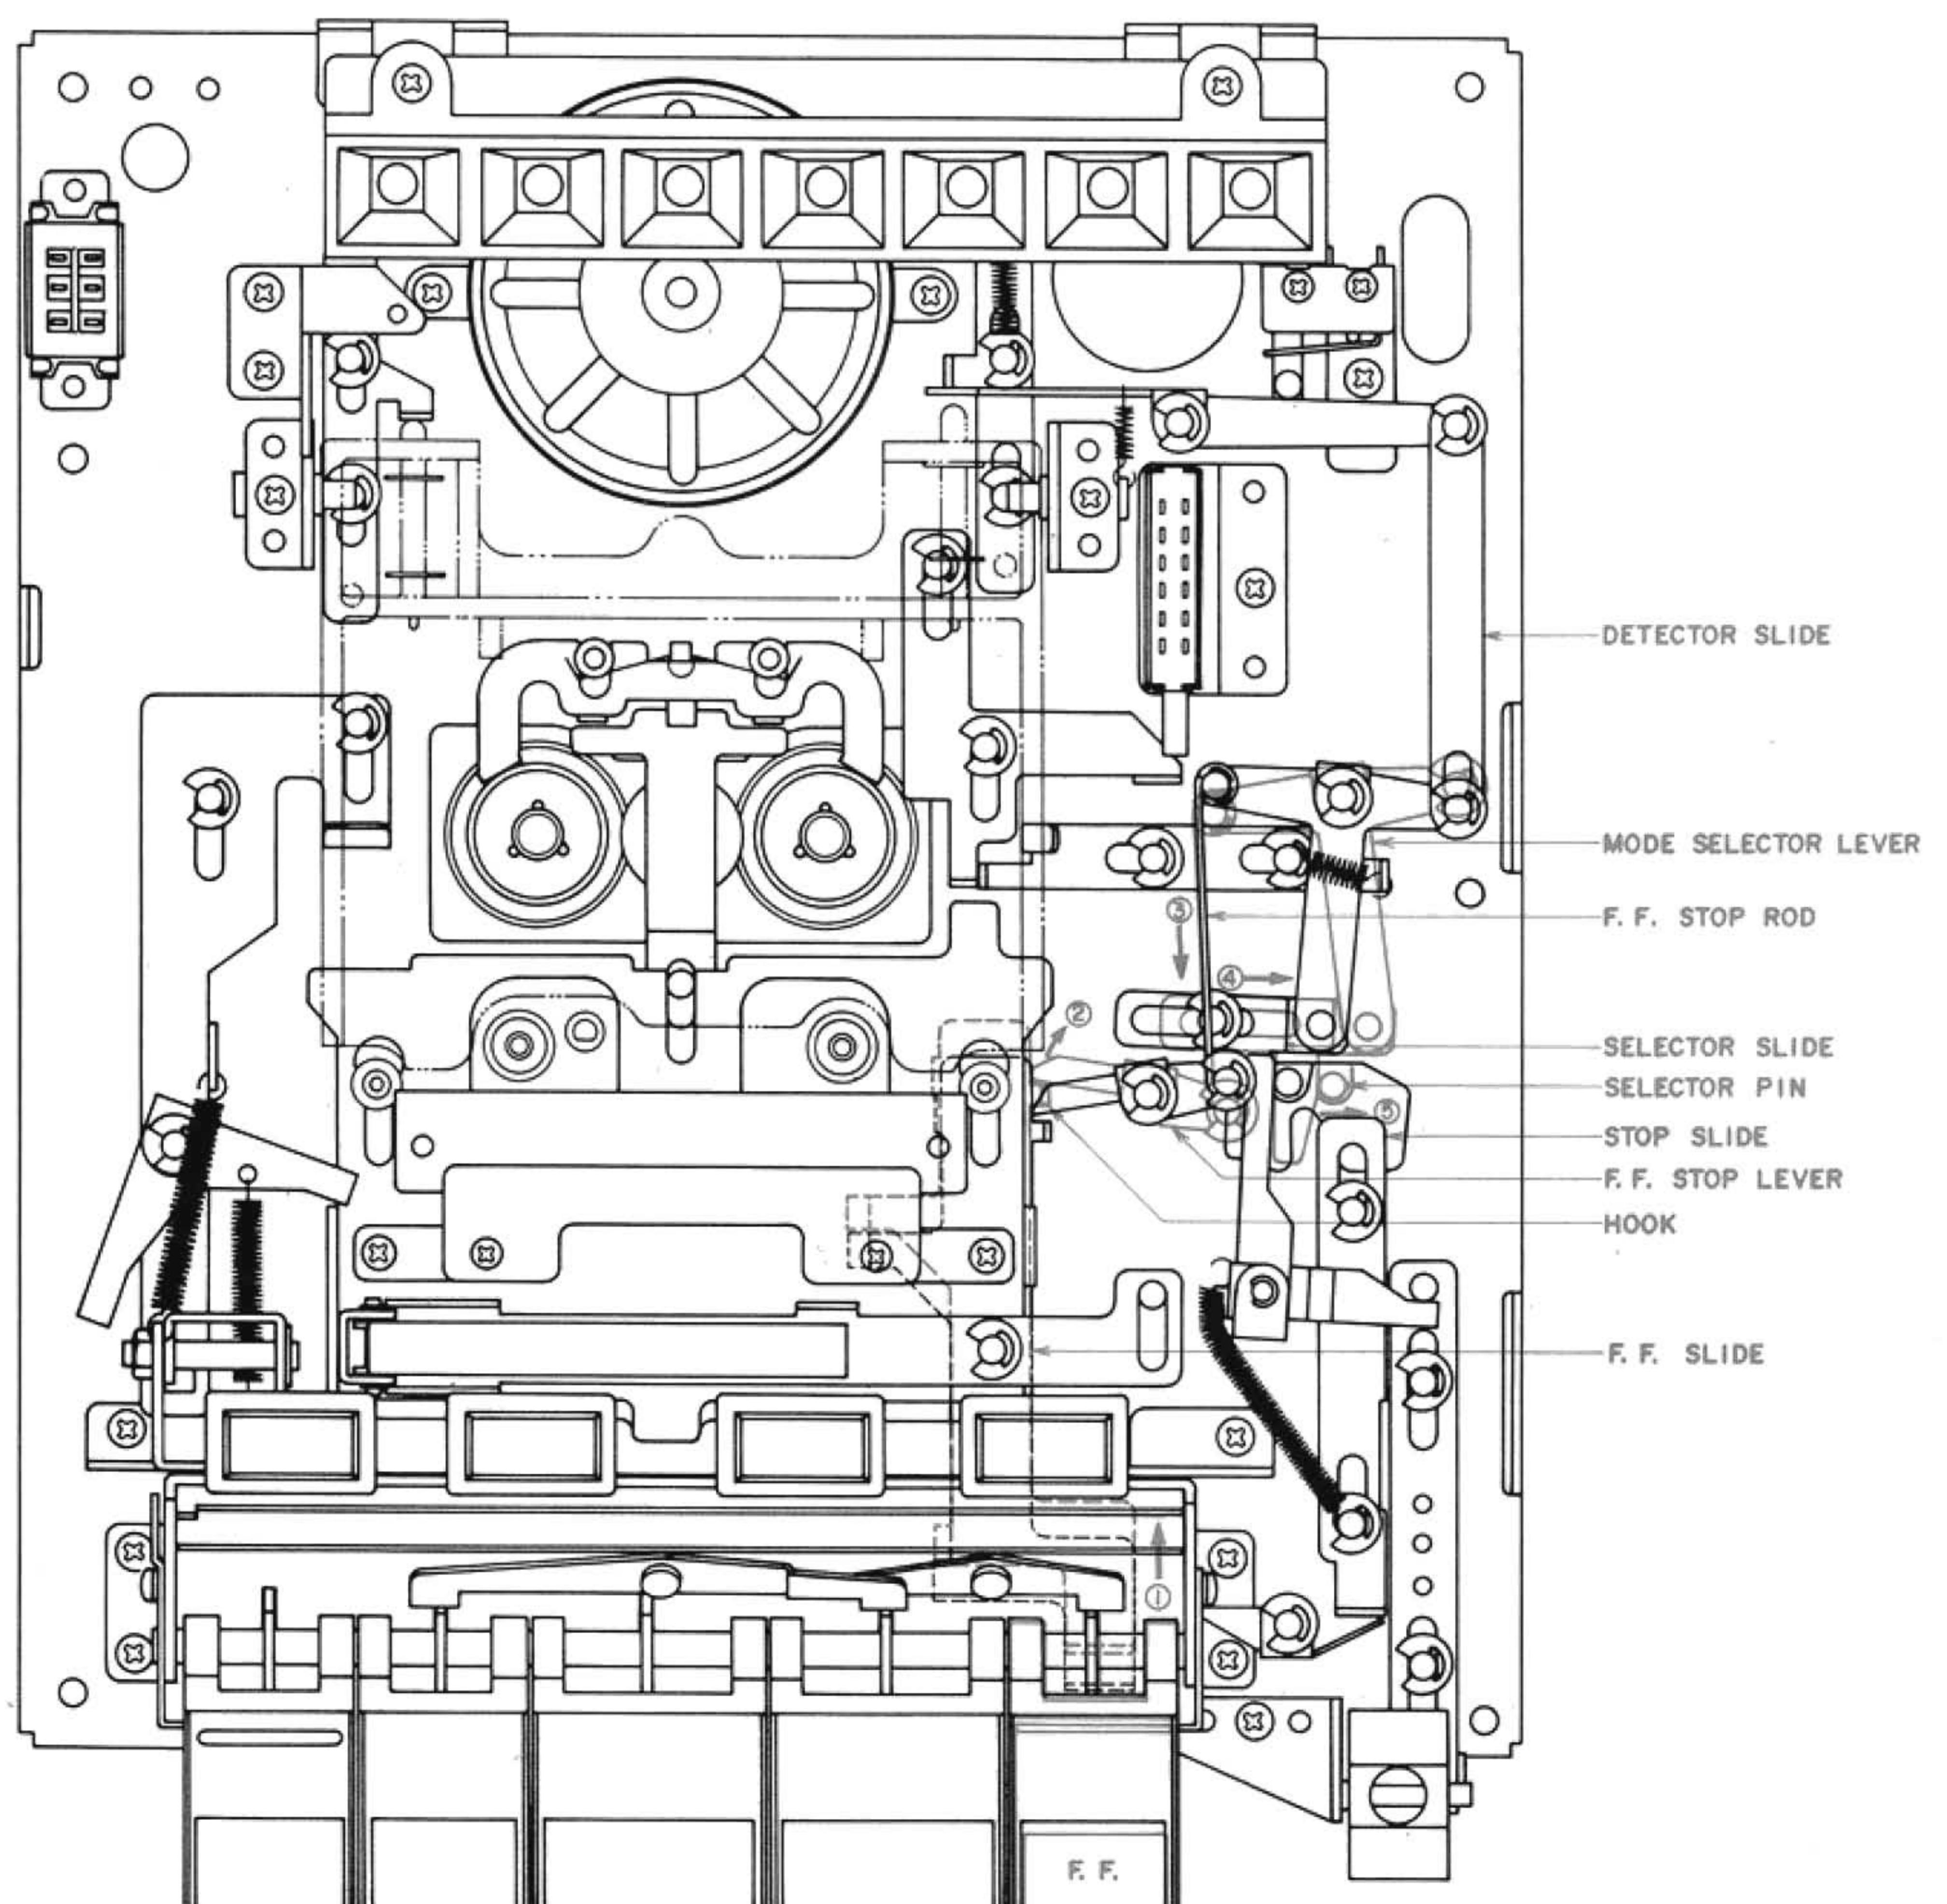

Fig. 34 From STOP to F.FWD Mode
(Refer to Fig. 34)
- a) When the Keyboard Block F.FWD Button is depressed, the Fast Forward slide is pushed out as shown by arrow mark (1) in the figure.
- c) The Fast Forward stop rod which is interlocked with the Fast Forward stop lever pulls the Mode Selector lever (Refer to arrow mark (3) in Fig. 34).
- d) The Mode Selector lever pulls the selector slide and the selector pin moves to the position shown at (2) in Fig. 34.
b) Because at FWD recording mode, the recording pin enters the cassette pack and the detector lever pulls the Mode Selector as shown by arrow mark (1) in Fig. 34, the selector slide pushes the selector pin to above the stop slide.